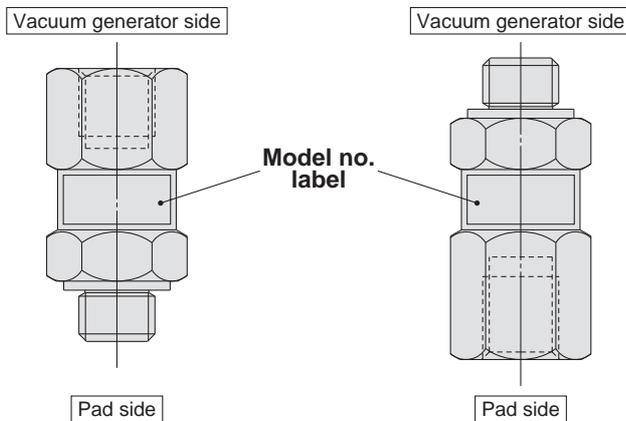

Fig. 1. Mounting direction
4. When piping, do not get the pad side and vacuum generator side of the product mixed up. (Refer to Fig. 1.)